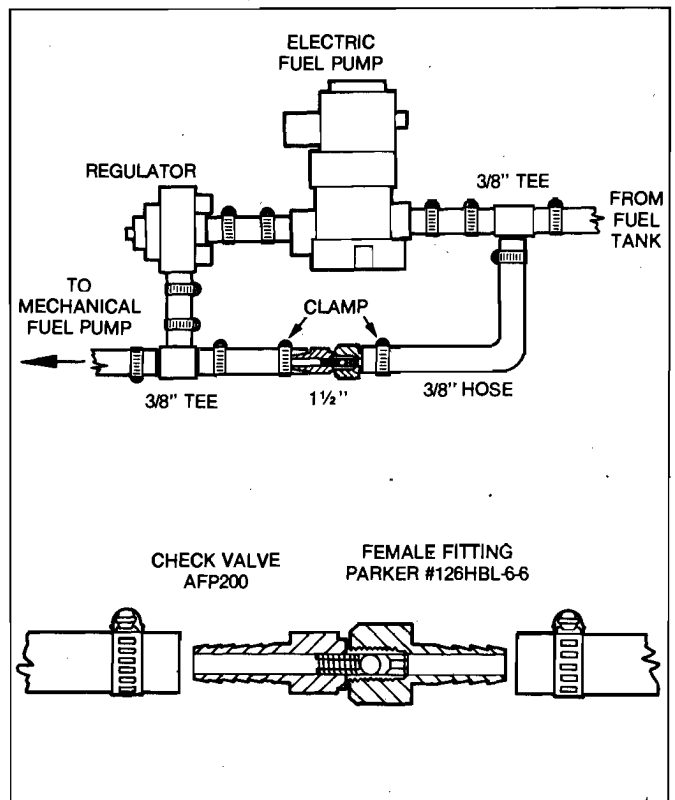

Figure A7-7-1
- Also recommended is a pump bypass line along with a check valve. The 12-801 is a positive displacement pump and will not allow fuel flow if it stops running. The bypass, which closes under fuel pressure, will allow the engine mounted mechanical pump to pull fuel from the tank in the event of an electric pump failure. (See figure A7-7-1).
To install a fuel line anti-siphon check valve into the system, a 3/8" bypass line must be installed around the electric fuel pump and regulator (See Figure A7-7-1.) The valve is manufactured by Aluminum Fabricated Products (AFP 200) and must be fitted with 3/8" hose connector, available from Parker-Hannifin Corporation (Part No. 126HBL-6-6.) These parts are usually available from marine hardware suppliers.